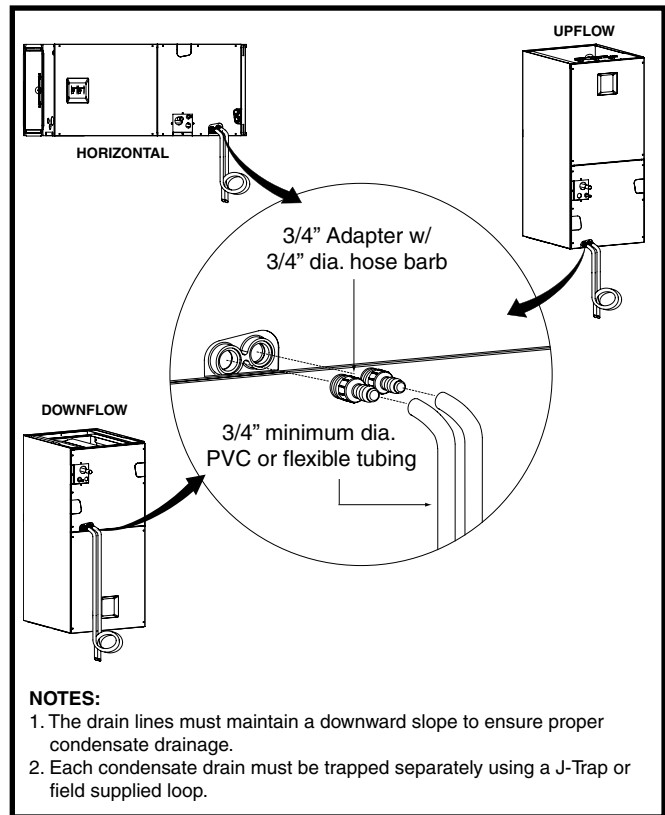

Figure 9. Condensate Drainage Example
- The drain pan that is supplied with this air handler contains a primary and secondary drain fitting. The condensate is drained from the unit through two 3/4" female pipe fittings located on the front side of the unit as shown in Figure 9.